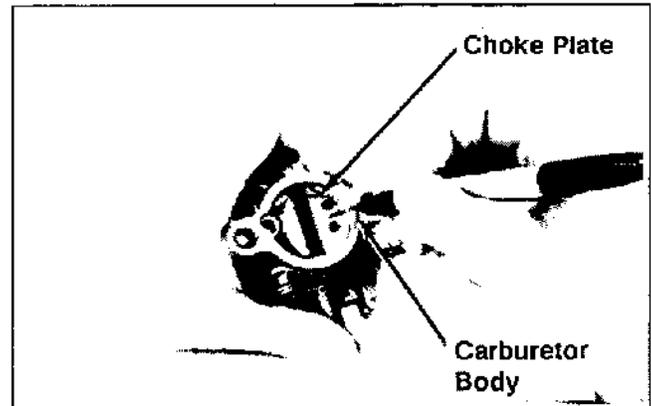

Figure 5-5. Marking Choke Plate And Carburetor Body.
1. Because the edges of the choke plate are beveled, mark the choke plate and carburetor body to ensure correct reassembly. See Figure 5-5.